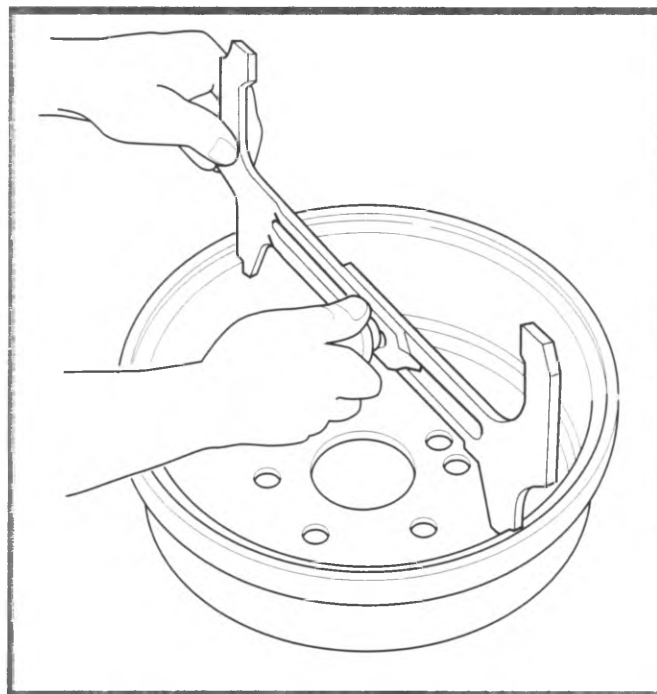

Figure 5-12, Setting Tool to Drum
1. Set J 21177-1A so it contacts the inside diameter of the brake drum (figure 5-12).